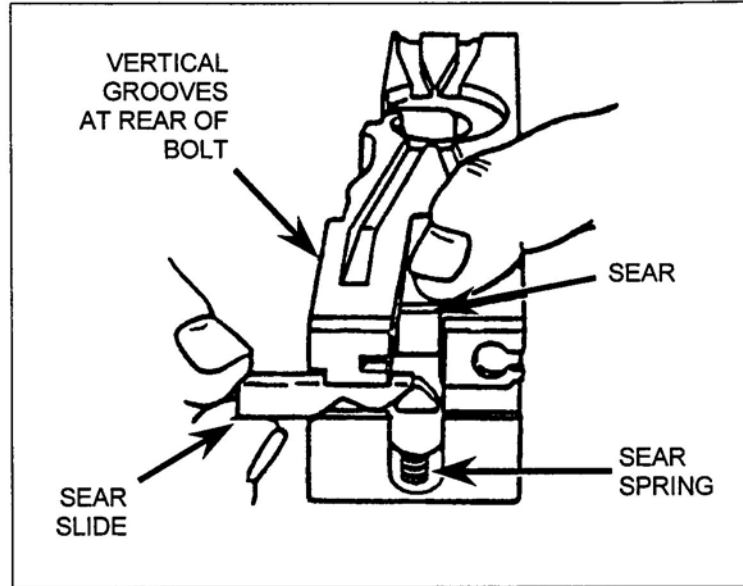

Figure 32. Installation of the sear side.
- (3) Slide firing pin extension assembly forward so that tip of firing pin protrudes from face of bolt.
- (4) Place sear spring in recess on bolt. Slide sear down into vertical grooves at rear of bolt with wedge-shaped lug pointed outward and upward (Figure 32).